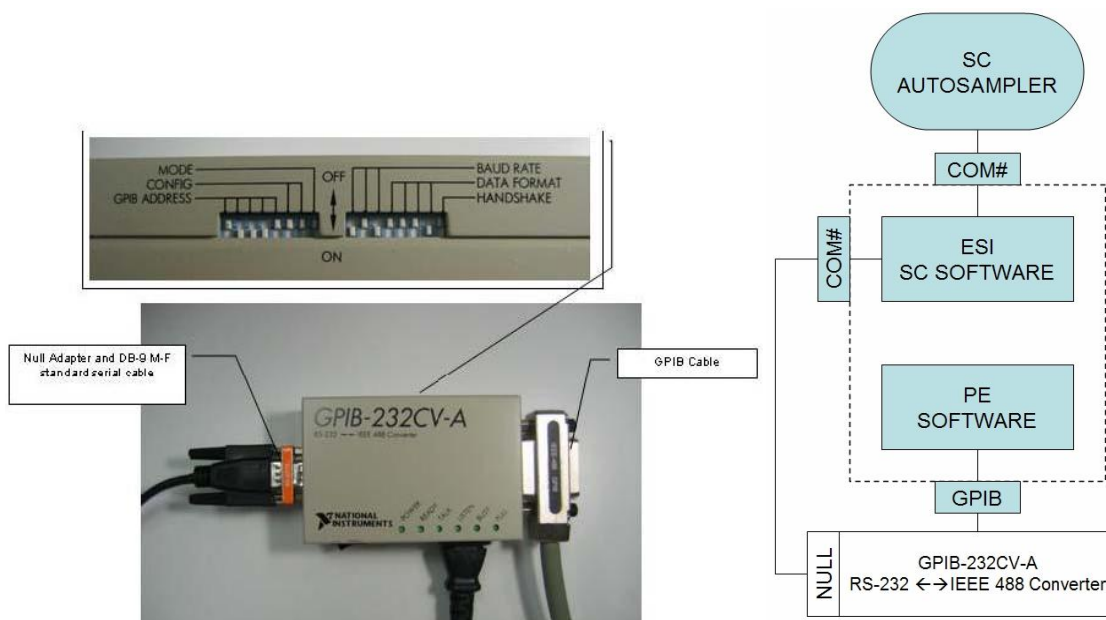

Figure 80: Dip Switch Settings to connect GPIB 232CV-A to DB9 on host computer.
- 2) Remove existing serial cable and replace with Null adapter (SC-0906) and DB9 M/F Serial Cable (SC-0904). See Figure 80.